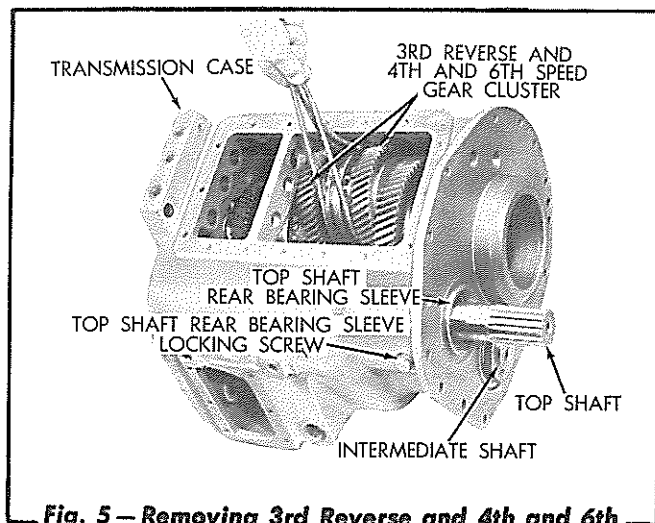

Fig. 5 — Removing 3rd Reverse and 4th and 6th Speed Gear Cluster
10. Place a rope around the center cluster of gears (3rd reverse and 4th and 6th speed gears) and remove the gear cluster and the gear spacing washers from the transmission case as an assembly (refer to Fig. 5).
ing retainer to the transmission case and remove the retainer. Remove the top shaft rear bearing sleeve locking screw (refer to Fig. 5) and remove the rear bearing sleeve and shims from the transmission case.